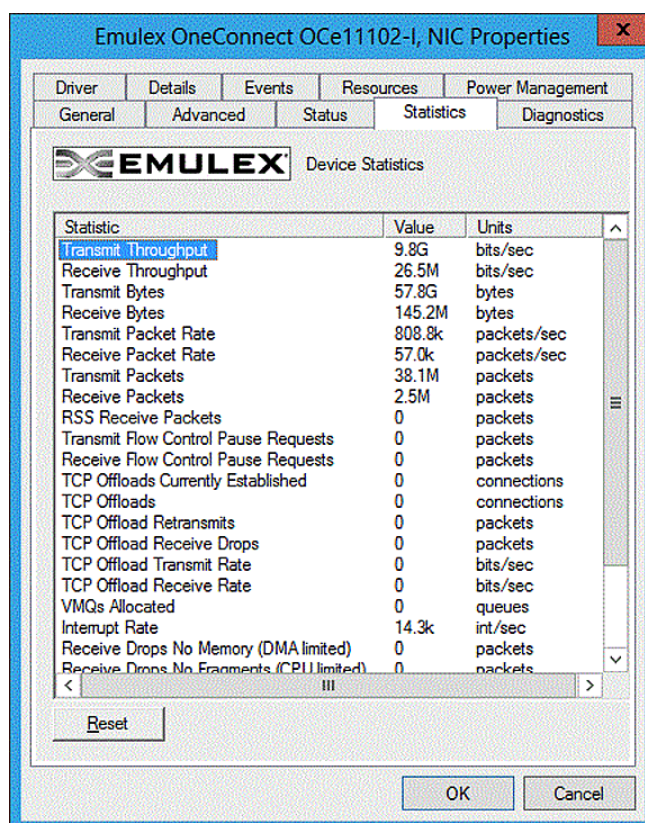

Figure 3-7 Emulex NIC Statistics Properties page
3. Select the **Statistics** tab (see Figure 3-7 on page 85). Information about the transmit and receive packets that are using the SR-IOV virtual function are displayed; specifically, the number of "Transmit Bytes" and "Receive Bytes" that are transmitted directly to hardware from the virtual function. If this number is greater than zero, the device is successfully using the SR-IOV direct hardware access.